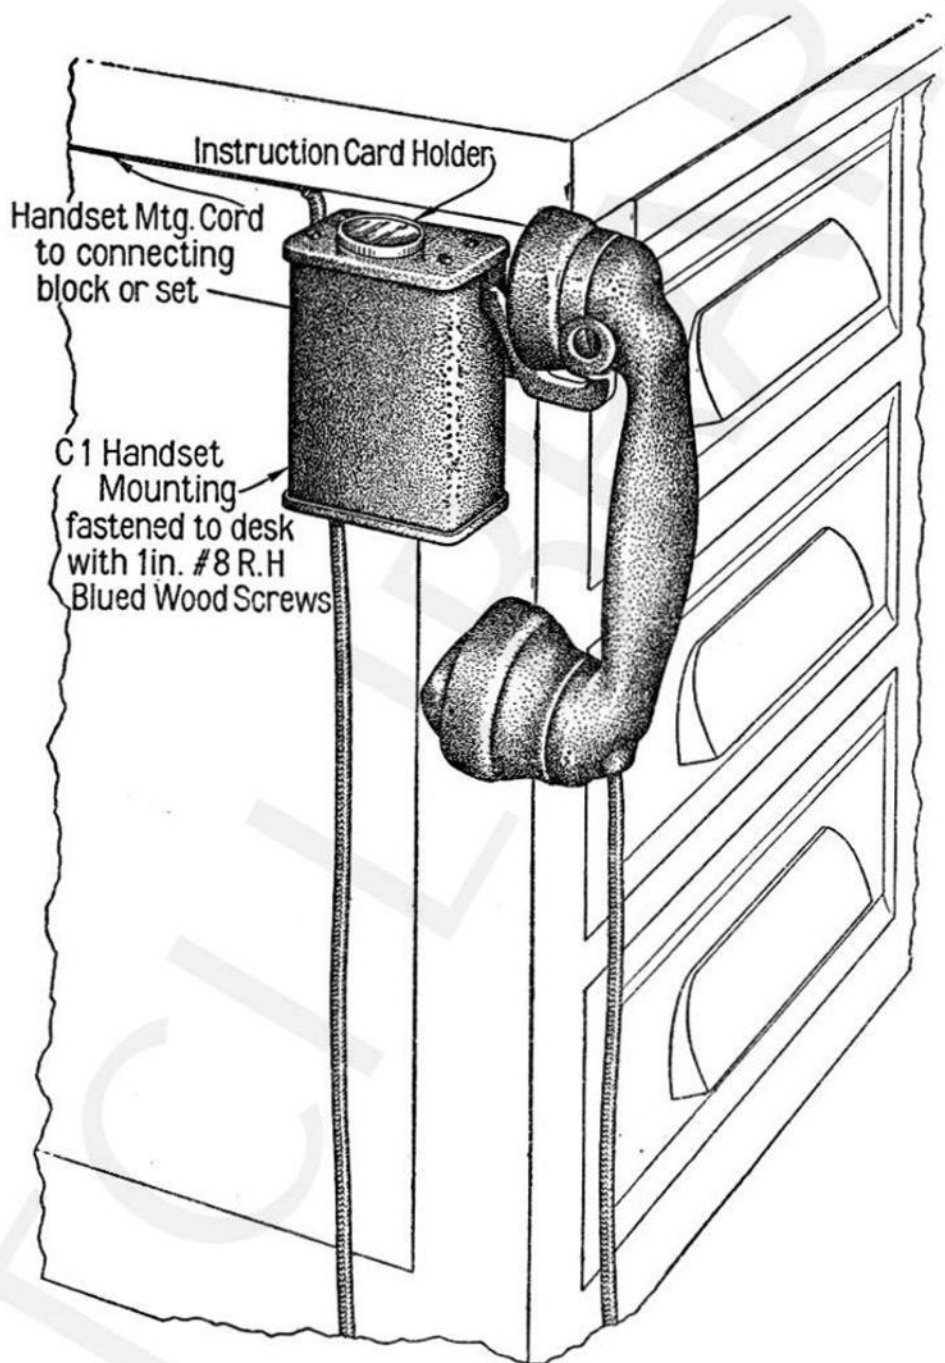

**Fig. 2**
**Handset Mountings:****A1 HANDSET MOUNTING (See Fig. 2, page 9)**